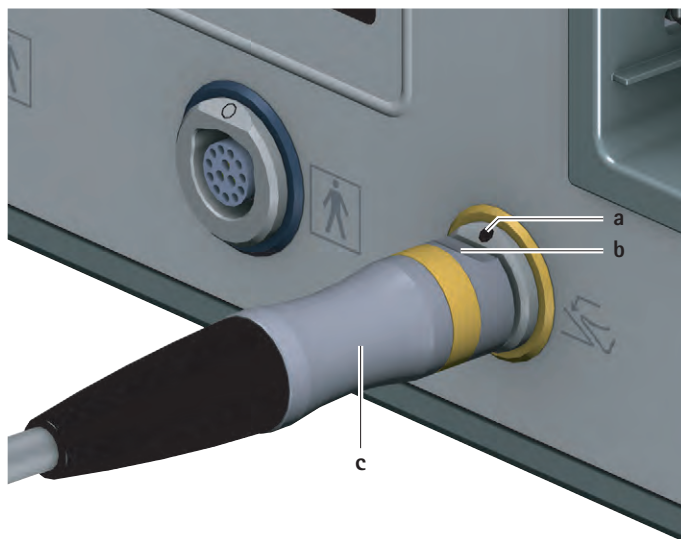

Fig. 2 Connecting the foot control
- ▶ Position connector of foot control c so that marking b on the connector is aligned with marking a on the connection socket for foot control 6, see Fig. 2.
- ▶ Unplug connector for foot control **c** from the connection socket for foot control **6**, see Fig. 2.